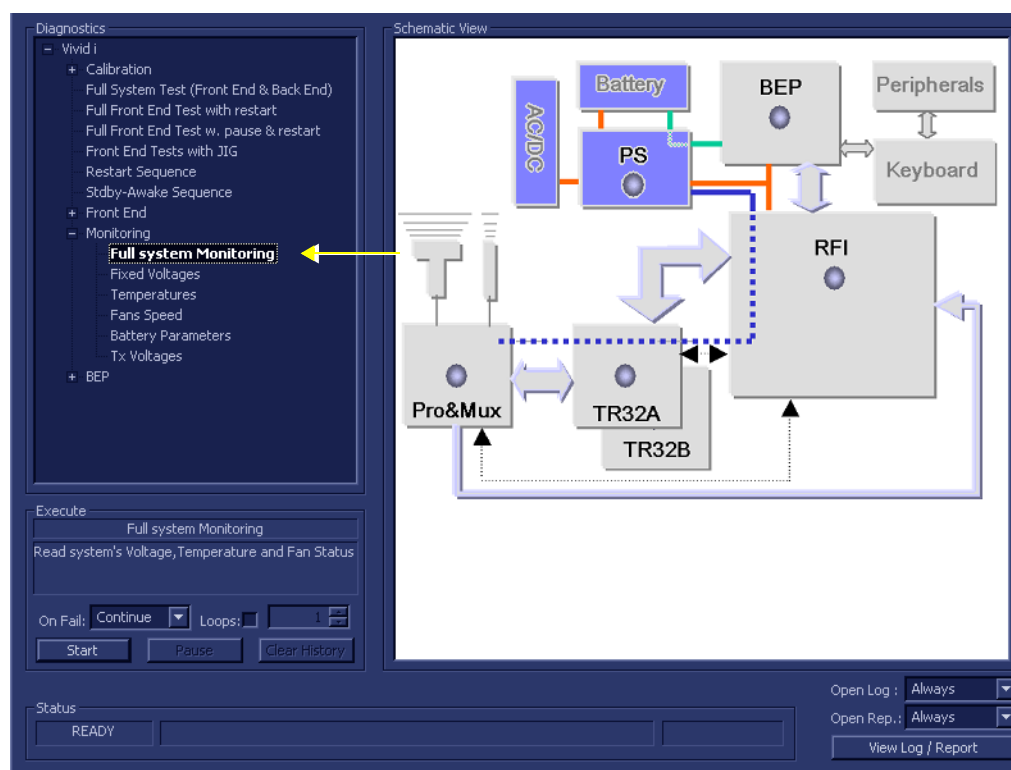

Figure 7-57 Full System Monitoring Test
- In the *Diagnostic Test* window, trackball to **Full System Monitoring Test** in the list of *Monitoring* tests available for selection from the Diagnostic Test Tree (see Figure 7-57 below) and press **Set**. The Full System Monitoring Test name is displayed under *Execute*; all system components to be tested are highlighted light blue in the Schematic View, as shown below: